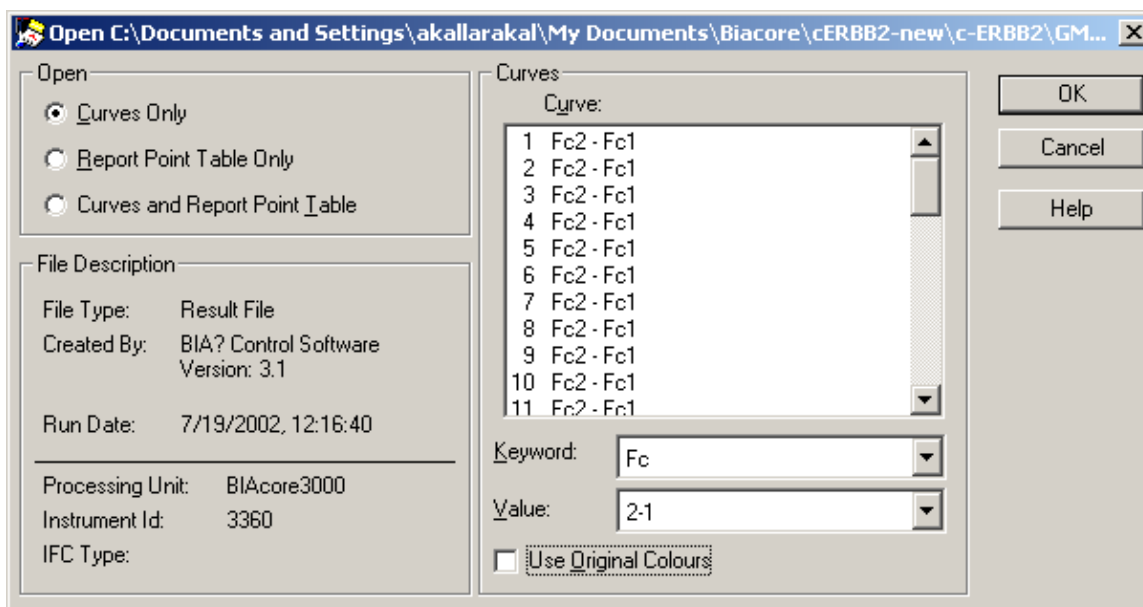

Figure 6.1 (Note: check that the sample name and details reflect the experiment performed)
- 6.3 Window shown in Fig 6.1 will open.